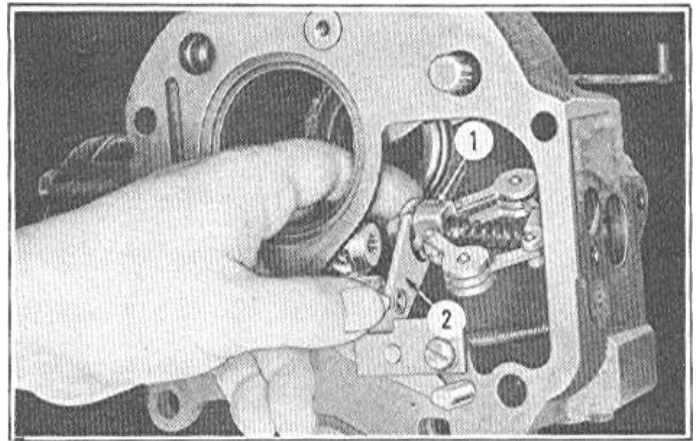
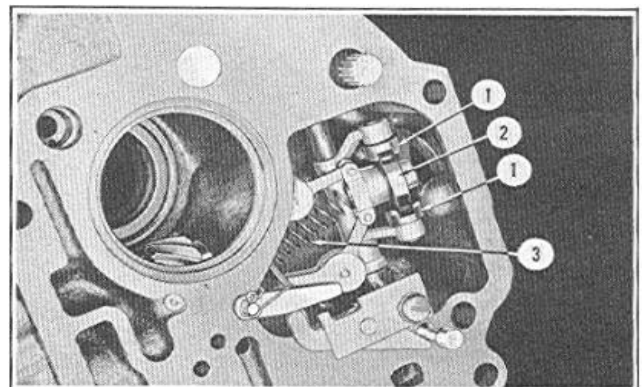

FIGURE 35
FIGURE 36
4. Remove the governor shaft (2) from the governor assembly.
5. Disengage the governor end bracket (1), Figure 35, from the valve fork (2).
6. Slide the governor bearing (2), Figure 36, out of the governor control shaft yoke shoes (1) and remove the governor and bearing as an assembly.
3. Align the slots of the shoes (1), Figure 36, and slide the governor bearing (2) into position in the shoes then engage the groove of the governor inner end bracket with the governor fork (2), Figure 35.